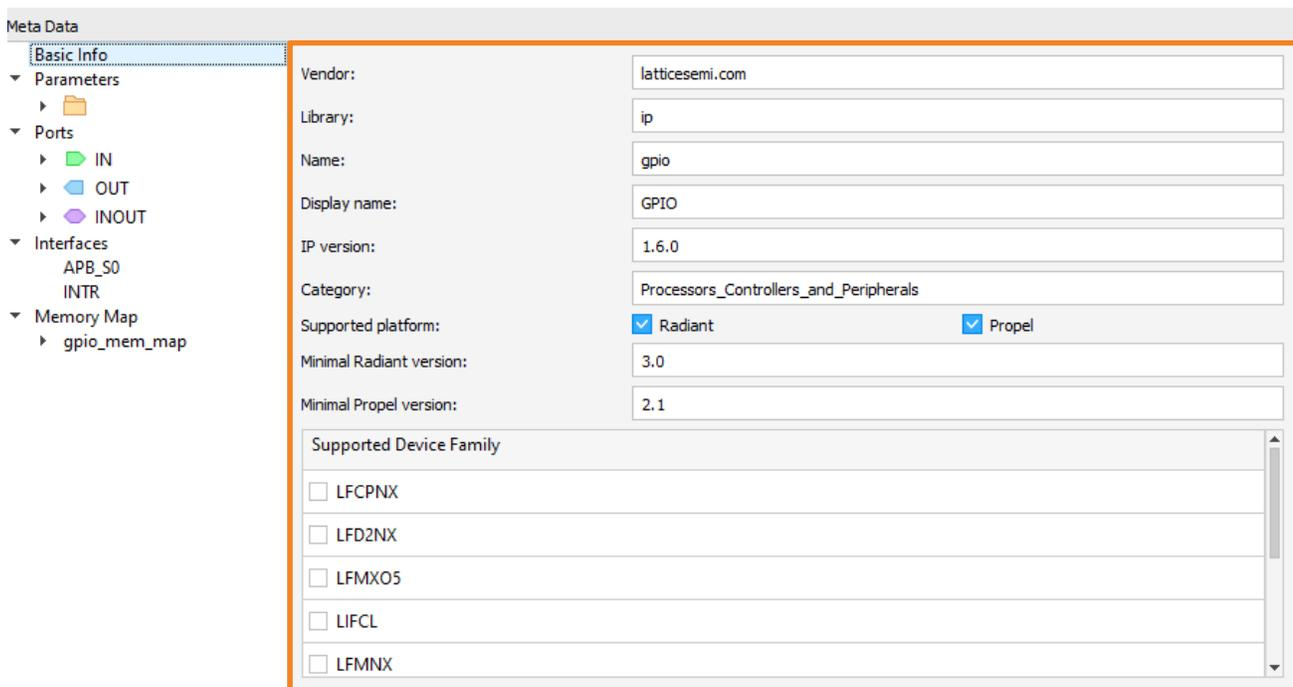

Figure 3.8. Configure Basic Info
- You can see the Basic Info properties in detail as shown in Figure 3.8.